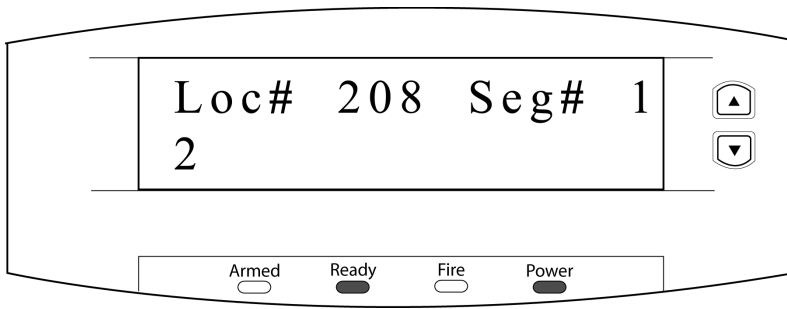

Figure 7: Alarm Panel - Location 208
2. After Location 207, enter Location 208 by either entering the location number followed by the **#** key or selecting the **👮** key. Once Location 208 has appeared, select the **2** key for **9600 Baud** (the LCD should look similar to Figure 7 on page 4).